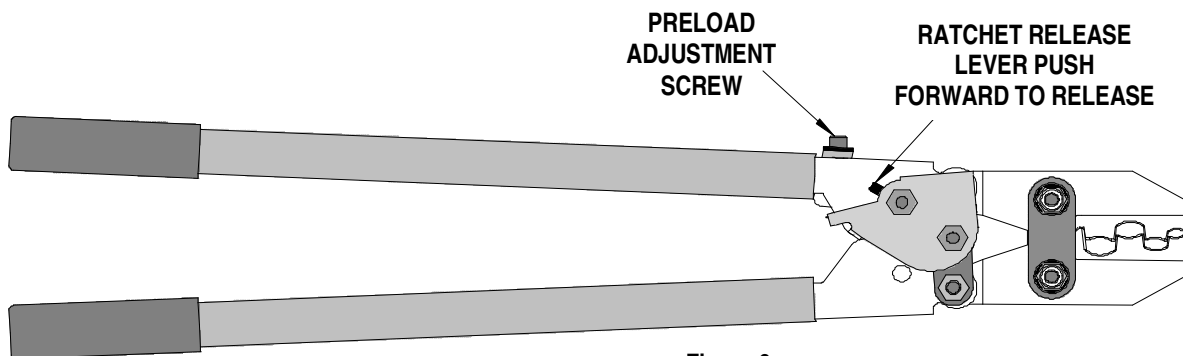

Figure 6
3. Make certain all pins; pivot points and bearing surfaces are protected with a thin coat of high quality machine oil. Do not oil excessively. This hand tool was engineered for durability, but like any fine piece of equipment, it needs cleaning and lubrication for a maximum service life of trouble-free crimping. A light oil, such as 30 weight automotive oil used at the oil points shown in Figure 6, every 5,000 crimps or 3 months will significantly enhance the tool life and ensure a stable calibration.
Should this tool ever become stuck or jammed in a partially closed position, **Do Not force the handles open or closed.** The tool will open easily by pushing the ratchet release lever forward. See Figure 6.
### How to Adjust Tool Preload (See Figure 6 and 7)